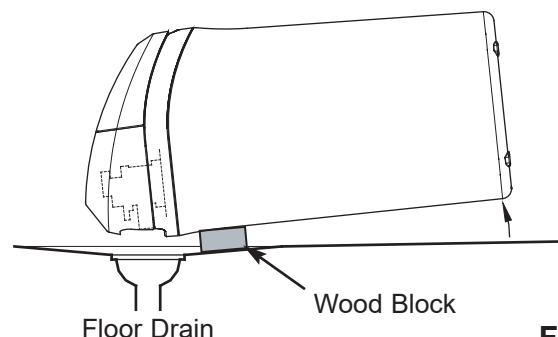

FIG. 45
6. Lay a piece of 2 inch thick board near the floor drain (See Figure 45).